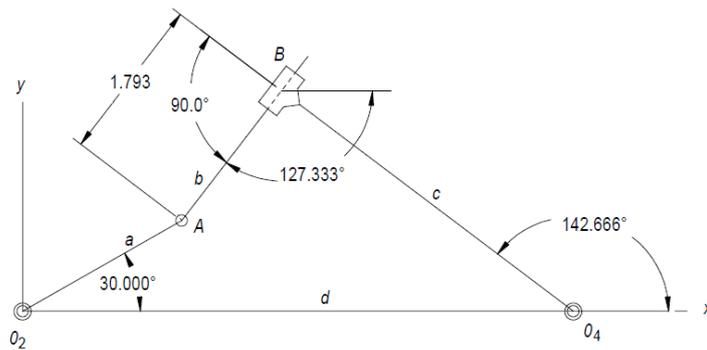

Figure 2 Fourbar slider-crank linkage
2. An inverted four-bar slider-crank linkage is shown in Figure 2. The length of input crank (link *a*)  $O_2A$  is 2.0 in and the angular velocities  $\omega_a = 10 \text{ rad/s}$  (c.c.w.). The length of coupler (link *c*)  $O_4B$  is 4 in. Using relative velocity method cooperates with velocity polygon method to find the velocities of the pin joints *A* and *B* and the velocity of slip at the sliding joint. Draw the linkage to scale. (30%)